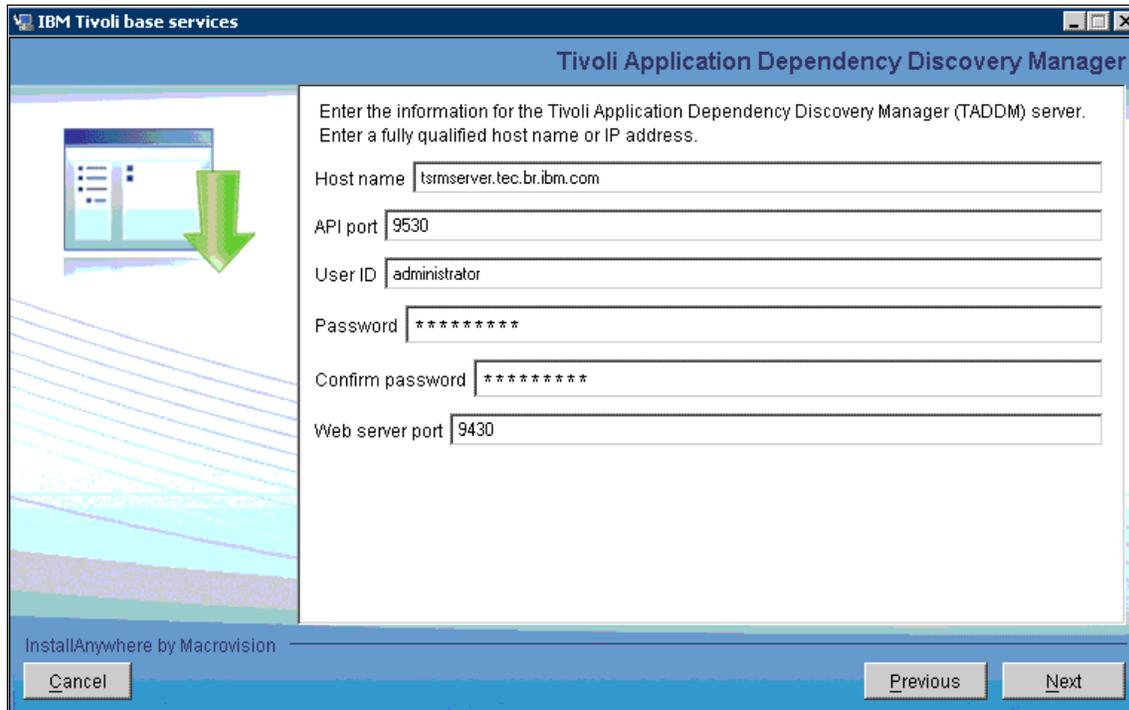

Figure 6-4 TADDM
7. As part of CCMDB implementation, TADDM server information is requested. You can point to a local TADDM server if you deployed one locally, or point to your current TADDM server. Refer to Figure 6-4 on page 194.